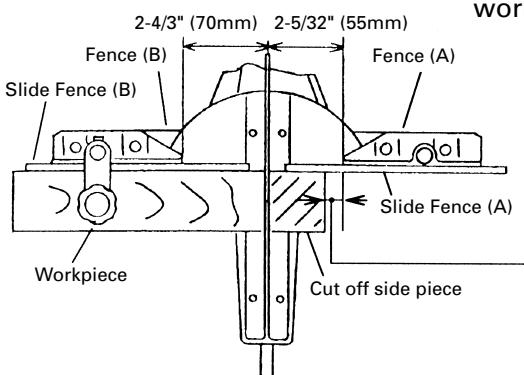

Fig. 18
3. Using the Slide Fence (A) and Slide Fence (B) (Standard accessory)
Slide fence (A) and slide fence (B) are meant to stabilize small workpieces as shown in Fig. 18.